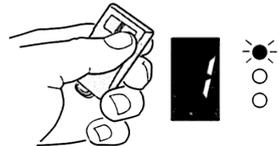

Figure 6
3. You have 5 seconds to activate the transmitter the alarm LED will Blink. See Figure 6